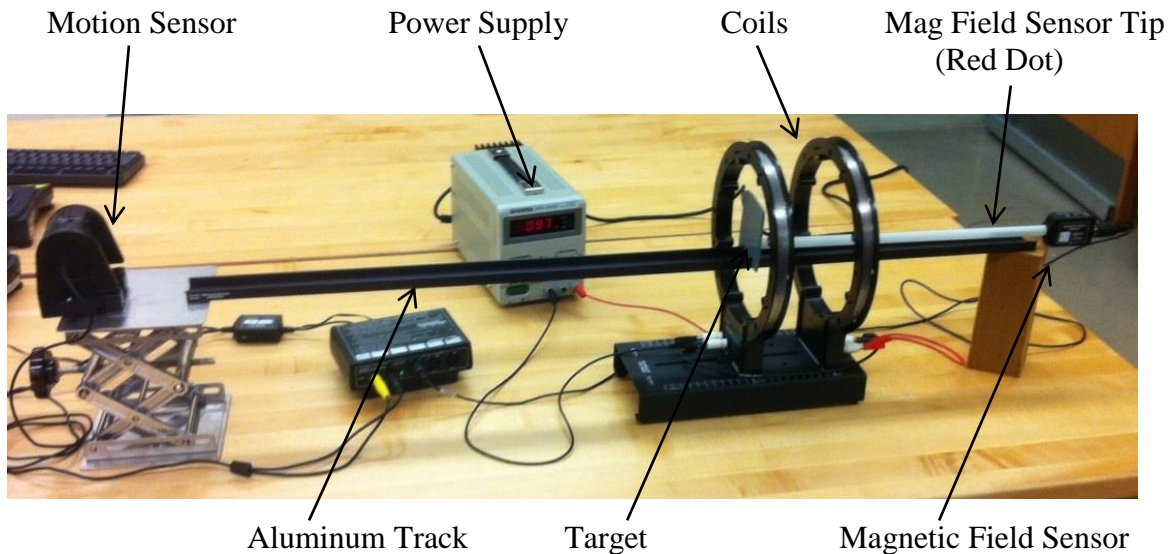

Figure 4
- Level the track and adjust the height so the Magnetic Field Sensor probe will pass through the center of the coil when it is pushed along the surface of the track. See Fig. 4.